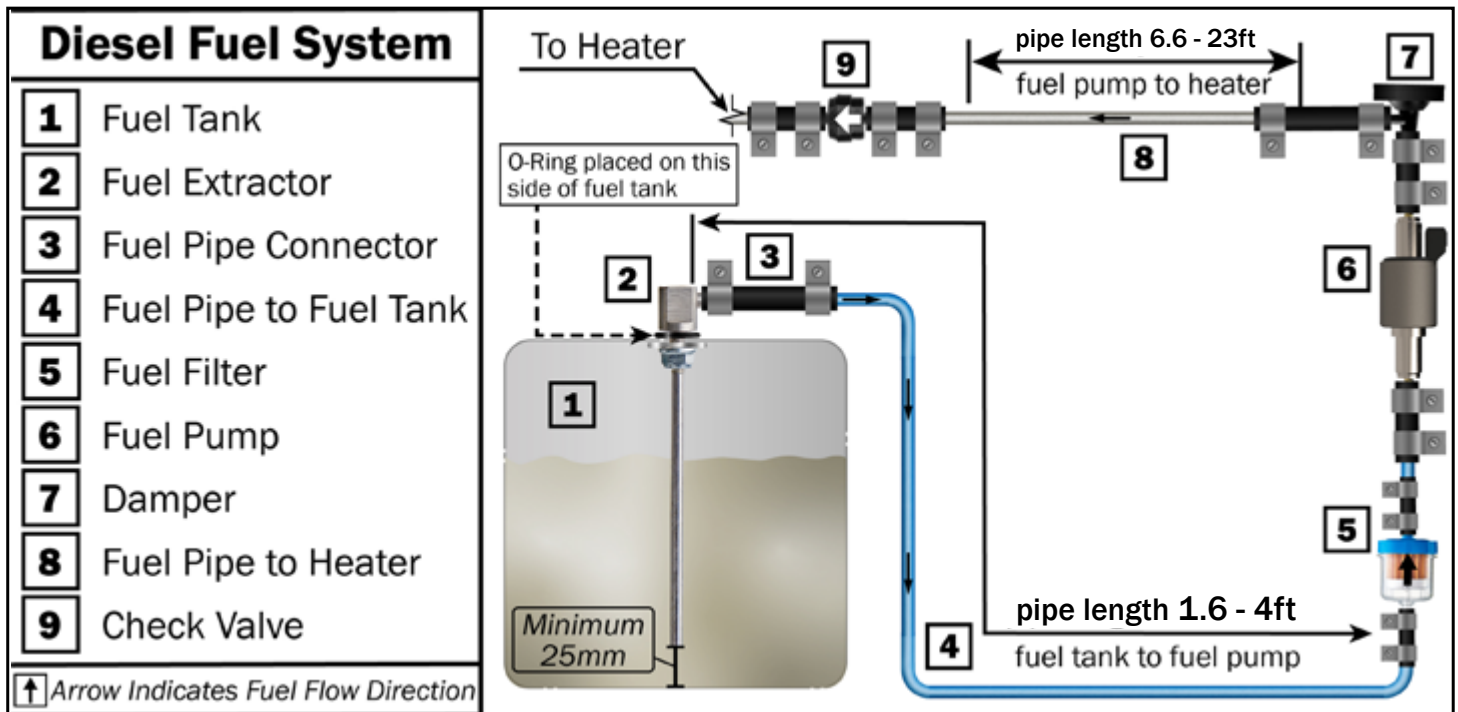

Figure 18
- The fuel line should not be descending from the fuel pump to the burner - see Figure 18.